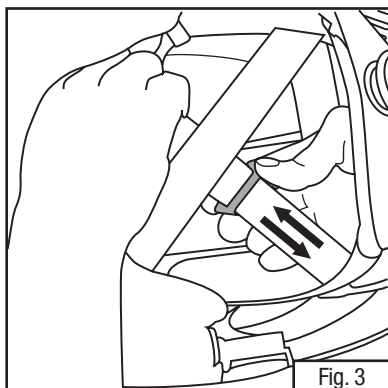

Fig. 3
- b. **M-100 and M-200 Series Headgear Only:** The fabric straps of the M-150 Head Suspension can be adjusted by sliding the blue strap lock located on the center strap (Fig. 3). Sliding the buckle towards the rear of the headgear tightens the straps and will raise the height of the headgear on the head. Sliding the buckle towards the front of the headgear loosens the straps and will lower the height of the headgear on the head.